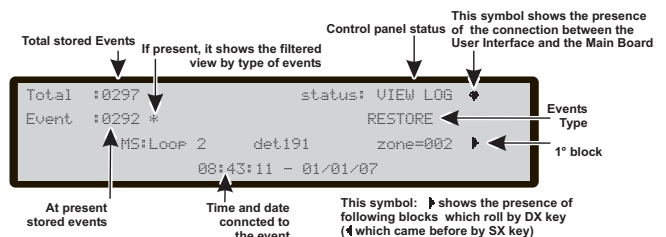

Figure 29 Display: Viewing Panel info.
- the presence of the auxiliary controller (see Figure 29).